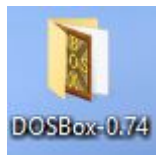

Figure 1 DOSbox- 0.74 Desktop Icon
5. Open DOSBox 0.74 folder from the desktop (Figure 1).